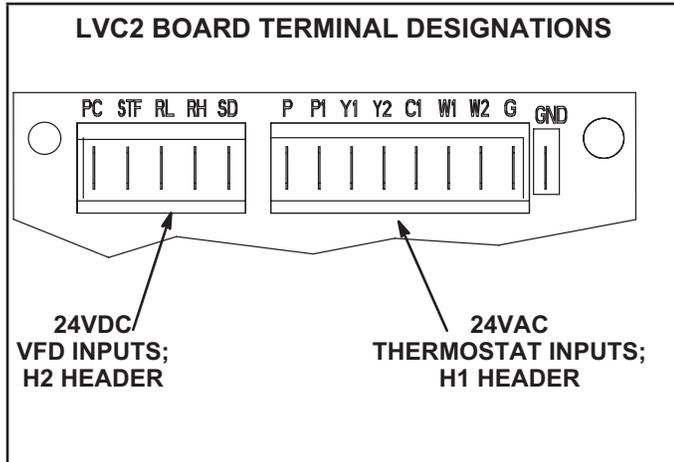

FIGURE 31
To save energy during ventilation, the blower speed can be set to low. This is accomplished by changing the ventilation speed switch on the VFD control board to "LO". See figure 31.
- 3 - Check for 24VAC signal at the thermostat blower input (G to GND terminal). See FIGURE 31.